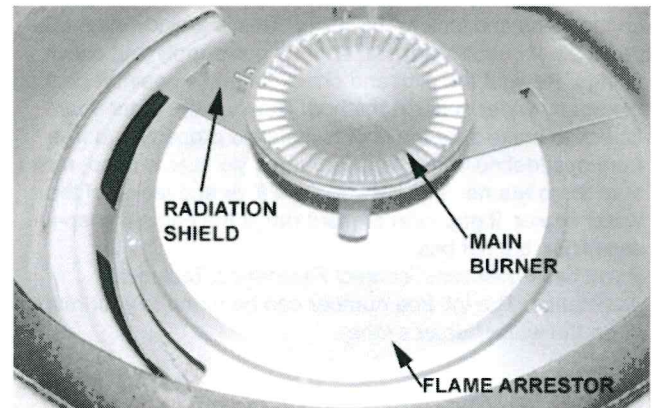

Figure 11
7. Inspect the radiation shield (thin circular metal sheet under the burner and above the flame arrester), see Figure 11. If any of the sides of the radiation shield are touching the base (disrupting air flow), install 1/2-inch high feet under the radiation shield. To obtain the feet free of charge, contact Residential Technical Assistance referencing the number in your manual.